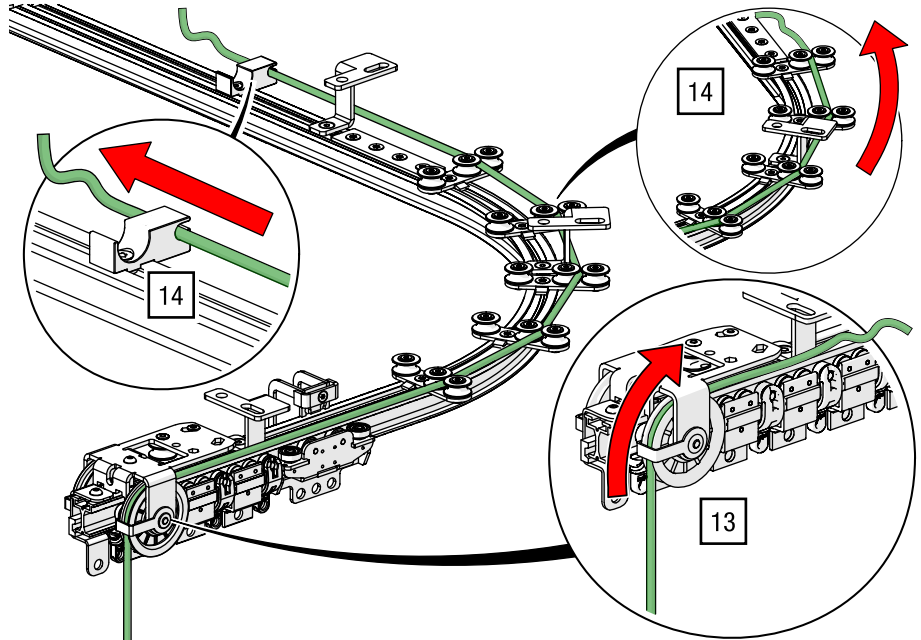

Fig. 96: Top cord operation – Guide the cord through the head pulley and cord operation
13. Pass the cord upwards through the head pulley (see Fig. 96).
14. Guide the rope past the first carrier through the rope guides (see Fig. 96).